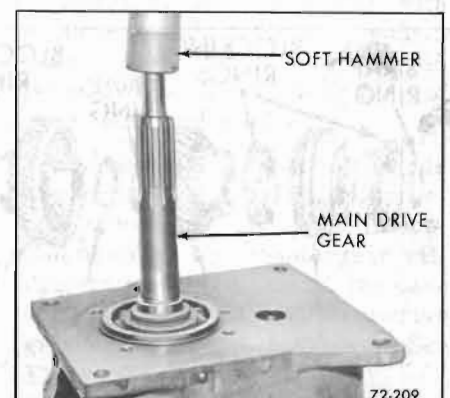

Figure 72-209—Removing Front Bearing
19. If it is necessary to remove front main bearing, use a soft hammer, tap main drive gear down through bearing as shown in Figure 72-209.